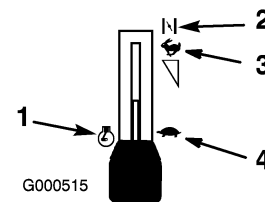

Figure 9
6. After the engine starts, move the throttle lever to Fast (Figure 9). If the engine stalls or hesitates, move the throttle lever back to Choke for a few seconds. Then move the throttle lever to the desired setting. Repeat this as required.
1. Move the throttle lever to Slow (Figure 9).